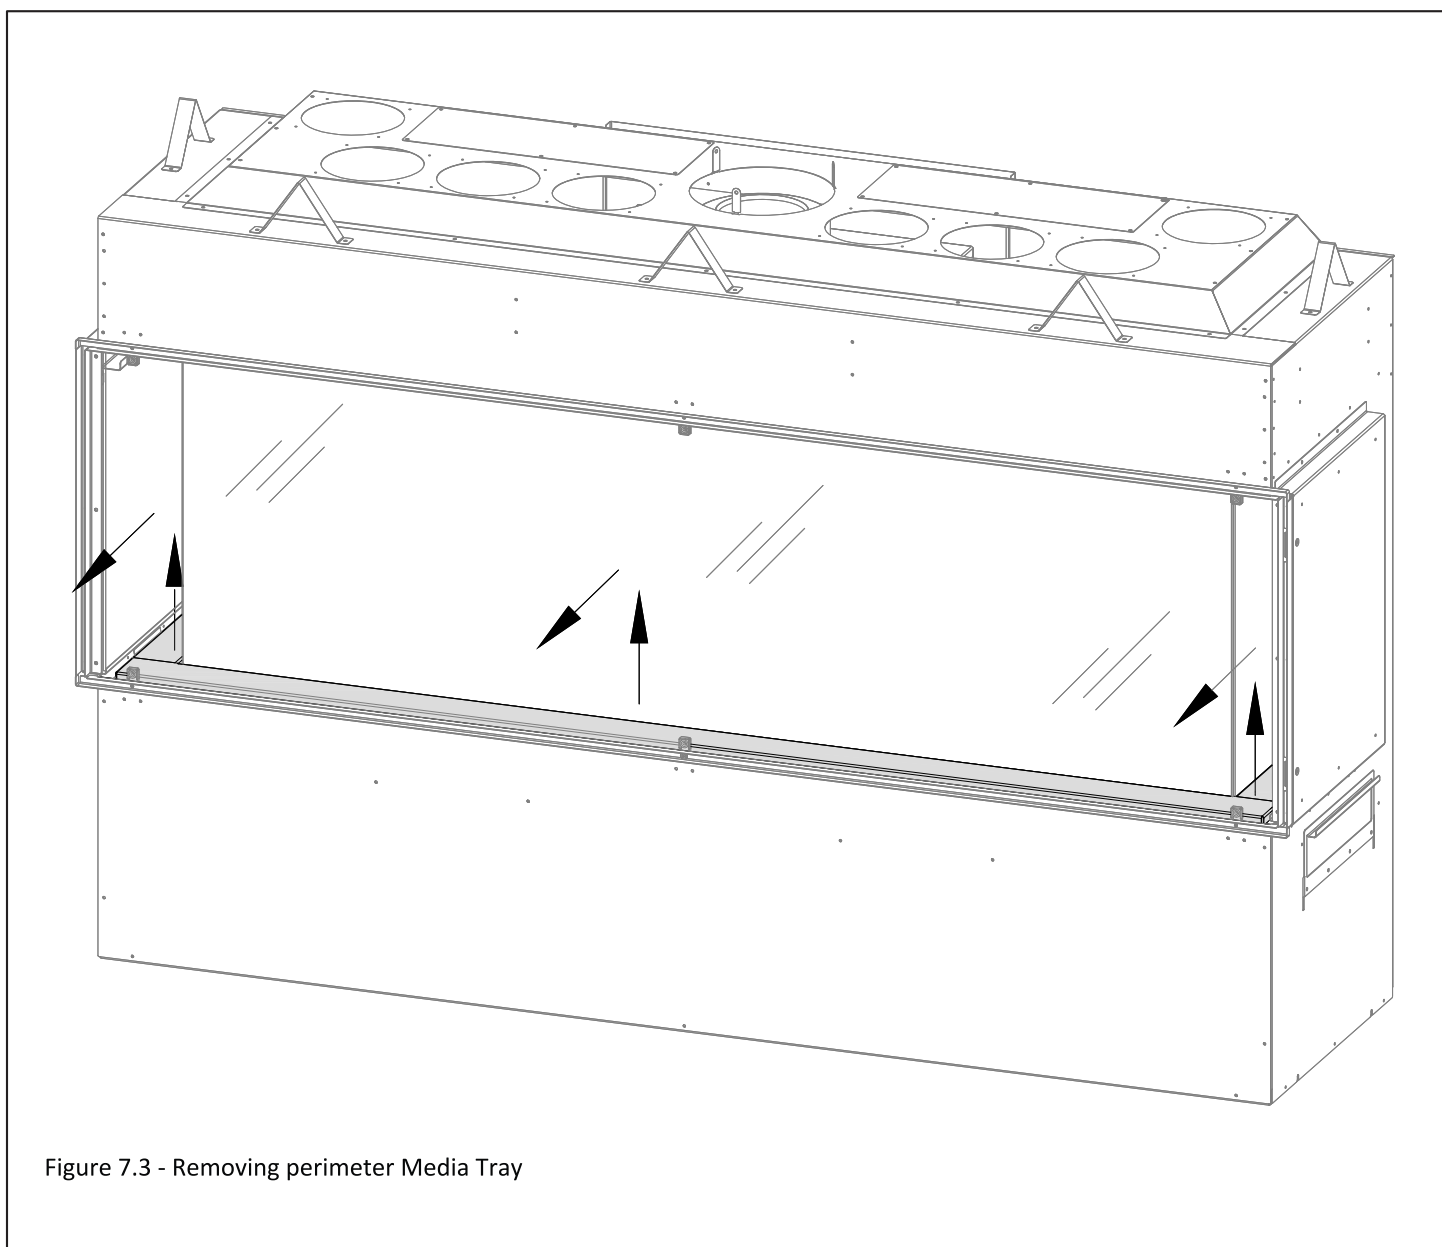

Figure 7.3 - Removing perimeter Media Tray
1. After the safety screen is removed locate the (2) sheet metal screws that secure each side media tray and the front media tray. See Figure 7.3. Ensure the media trays are pushed up against the firebox glass so there is a gap between the media tray and screen / outside edge of the fireplace.
1. Remove the perimeter media tray by lifting it up and out of the slot it is installed. See Figure 7.3.